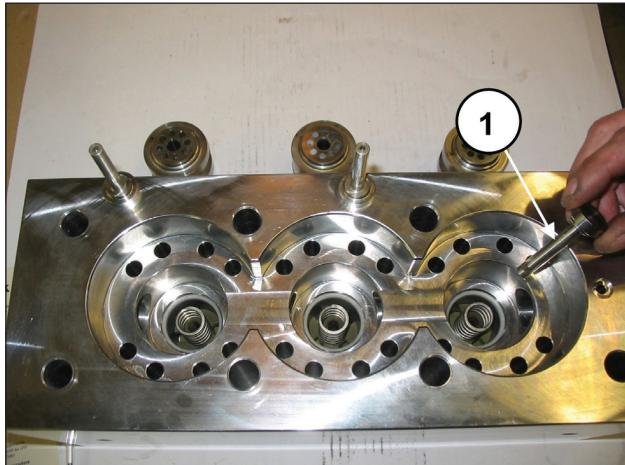
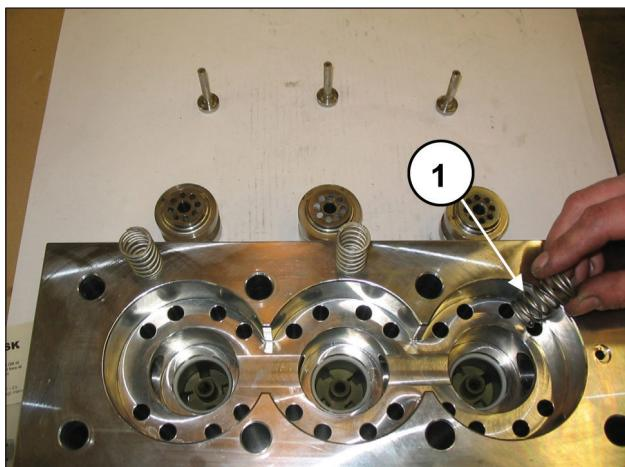
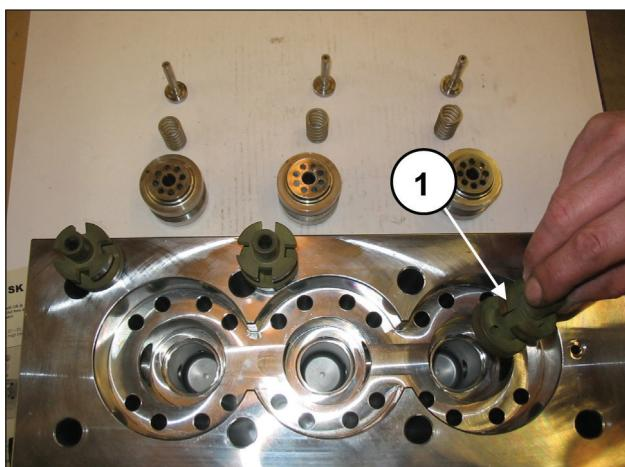

Fig. 106
Fig. 107
Fig. 108
Extract the outlet plates (pos. ①, Fig. 106), and their guides (pos. ①, Fig. 108), with the springs (pos. ①, Fig. 107), check for wear and replace if necessary, and in any case within the times indicated in chapter 11 of the ***Use and maintenance manual***.